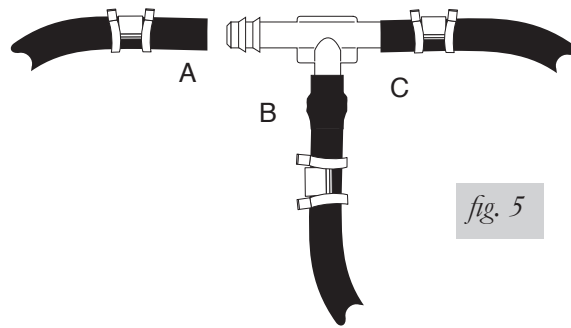

fig. 5
3. Push the air line over one side of the tee until all the barbs are covered. With a pair of pliers, slide the air line clamp forward until it fully covers the barbed section. Repeat entire procedure for other leg of the tee (Fig. 5).